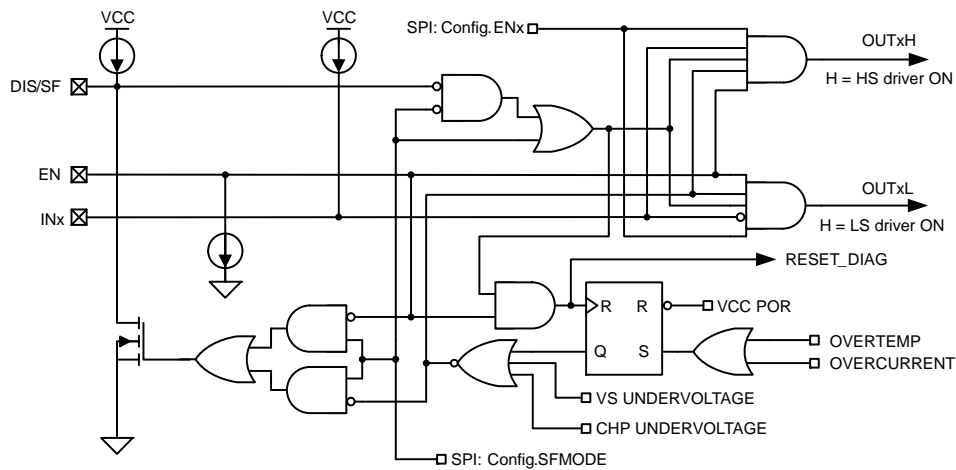

Figure 5. Bridge Control Logic
All control inputs provide internal pullup (IN1, IN2, DIS/SF) or pulldown (EN) to ensure defined functionality in case of open pin conditions. Bridge control logic is shown in Figure 5 and Table 1 demonstrates all Operational Modes.